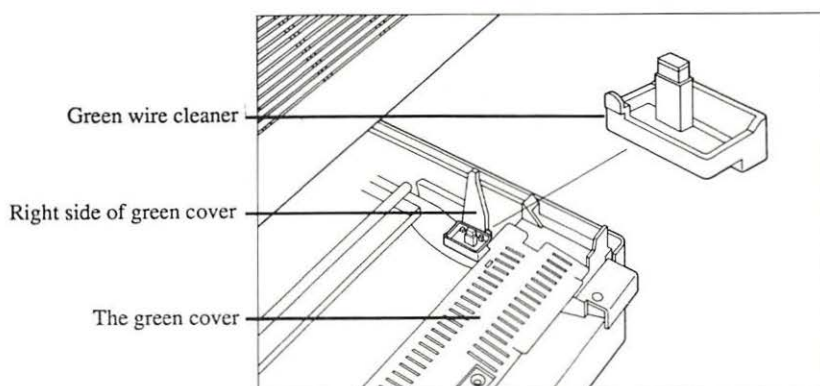

FIGURE 5-16: PRIMARY CORONA WIRE CLEANER
1. Open the printer and pull out the toner cartridge (if necessary use the instructions in this section). Locate the wire cleaner inside the lower half of the printer. (Figure 5-16).